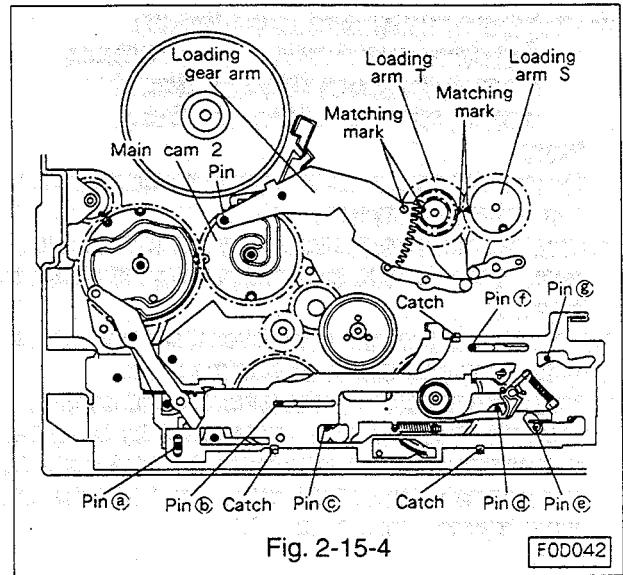
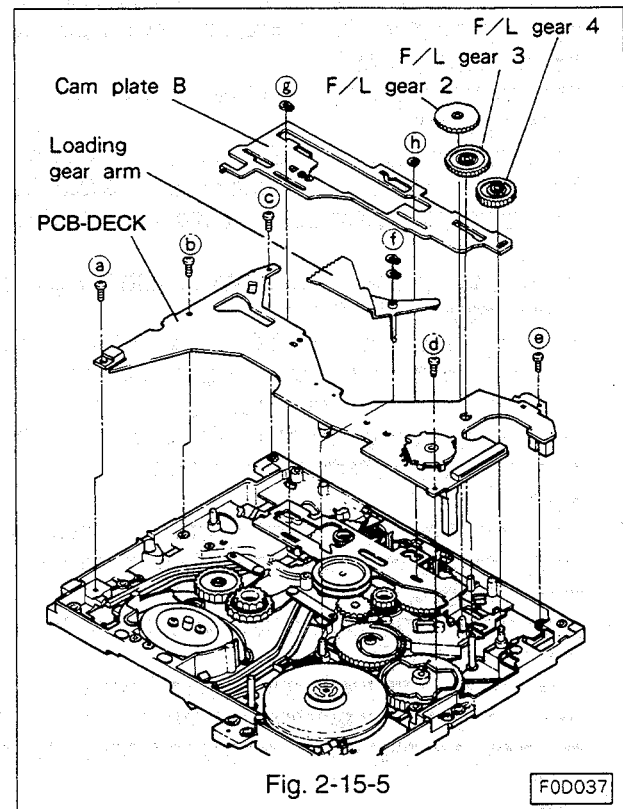

Fig. 2-15-4
Fig. 2-15-5
- J. Install the cam plate B so that the plate matches pins (a ~ g) as shown in Fig. 2-15-4, especially pin e, and secure the plate with three clamps, cut washer (pin b) and grip ring (pin f).
- K. Line the matching mark of the loading arm T with that of the loading gear arm as shown in Fig. 2-15-4, and assemble the loading gear arm to the shaft so that the pin of the loading gear arm enters the groove of the main cam 2. Secure arm with two grip rings (f). (Refer to Fig. 2-15-5.)
- L. Assemble the F/L gear 2, 3, and 4 to the shafts as shown in Fig. 2-15-5.